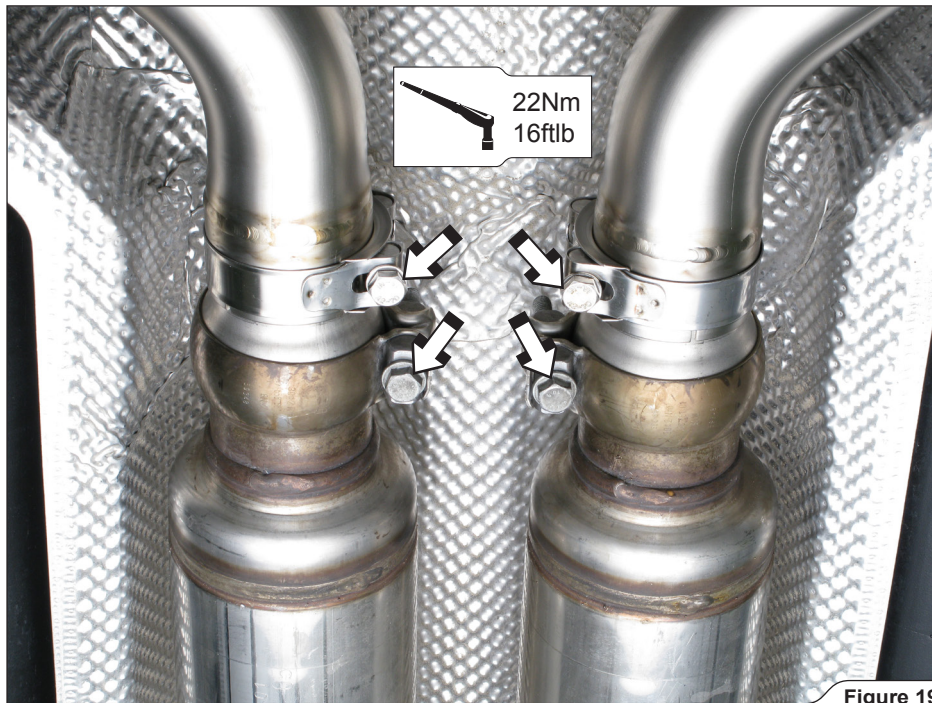

Figure 19
11. **For Slip-On:** tighten the Akrapovič and stock metal clamps on middle pipes-muffler pipes connections to a specified torque (**Figure 19**).